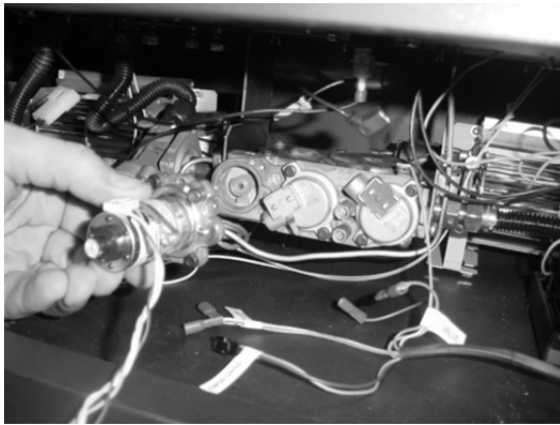
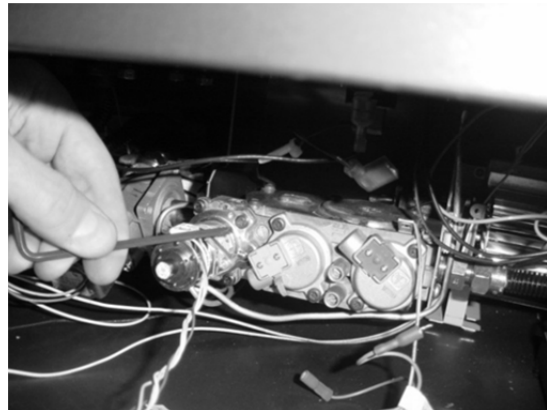

Figure 16
Figure 17
- 10 The stepper motor (adjustable regulator) has an installation sheet included with it – make sure to follow all of the directions. Place the stepper motor on the gas control valve (see Figure 16) – **MAKE SURE IT IS CORRECTLY ORIENTED**. Secure using the screws included with the motor (see Figure 17) – tighten to 25 Lb-inches. Leak test this area after installation to verify proper installation.